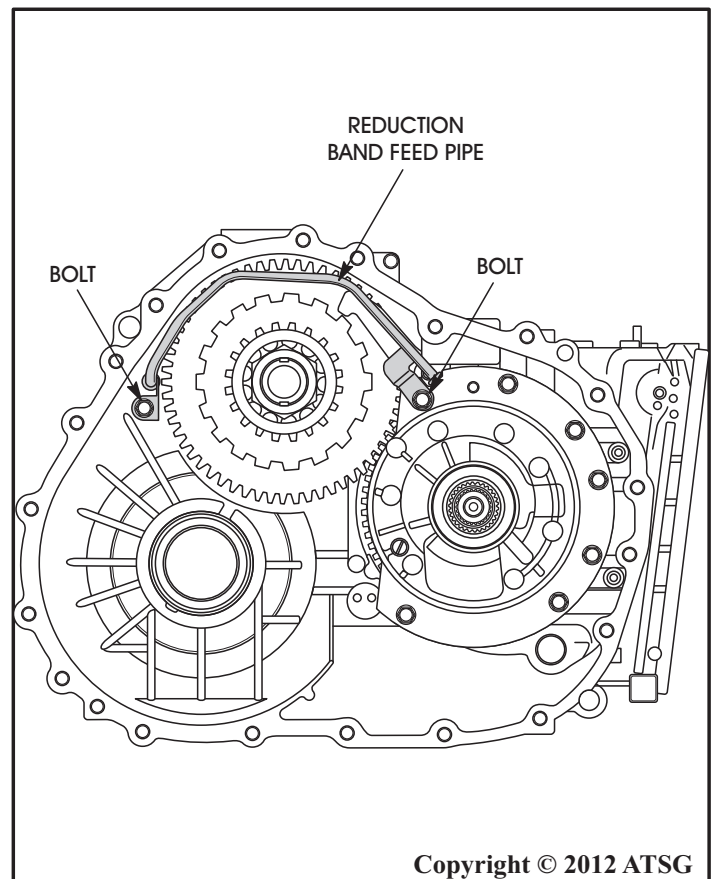

Figure 66
26. Remove the two reduction band feed pipe retaining bolts, as shown in Figure 66, and remove feed pipe with brackets.